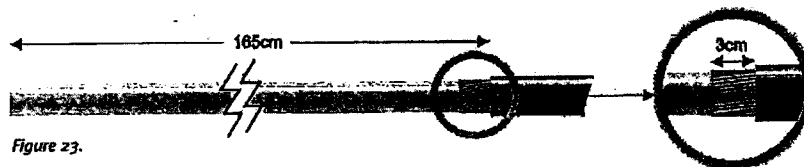

Figure 23.
2. Measure and mark the outer copper screen wires at 3 cm above the end of the Black PVC Outer Sheath. (Figure 23) With the cutters, carefully cut and remove the wires, again without damaging the White XLPE Insulation below.